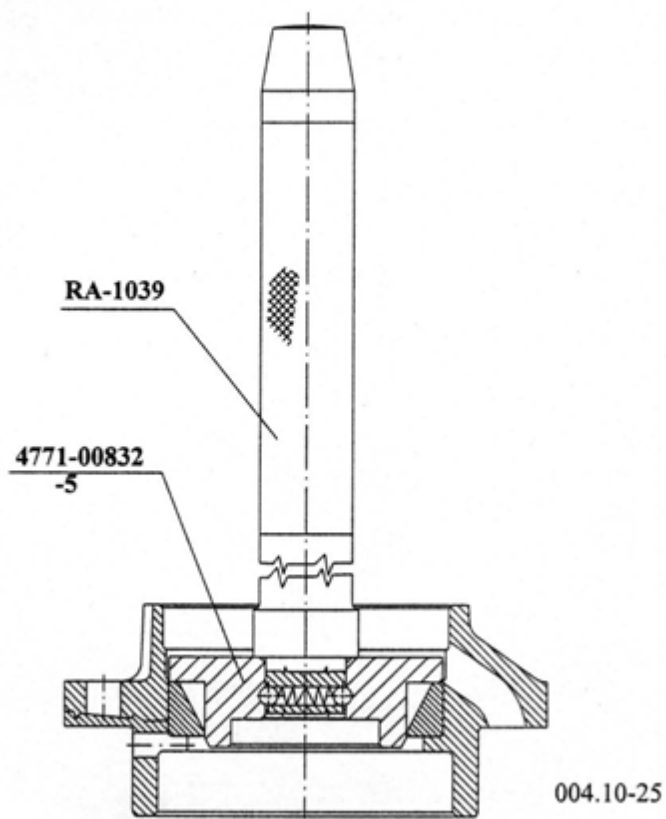

Fig. 6.: DRIVING IN THE OUTER RACE OF THE OUTER TAPER ROLLER BEARING
Drive in the outer race of the outer taper roller bearing (9) by means of the tools shown (Fig. 6.).